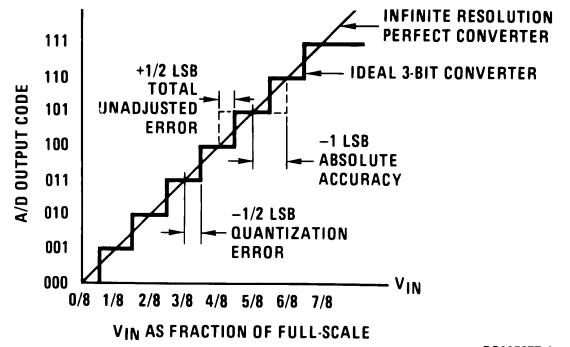
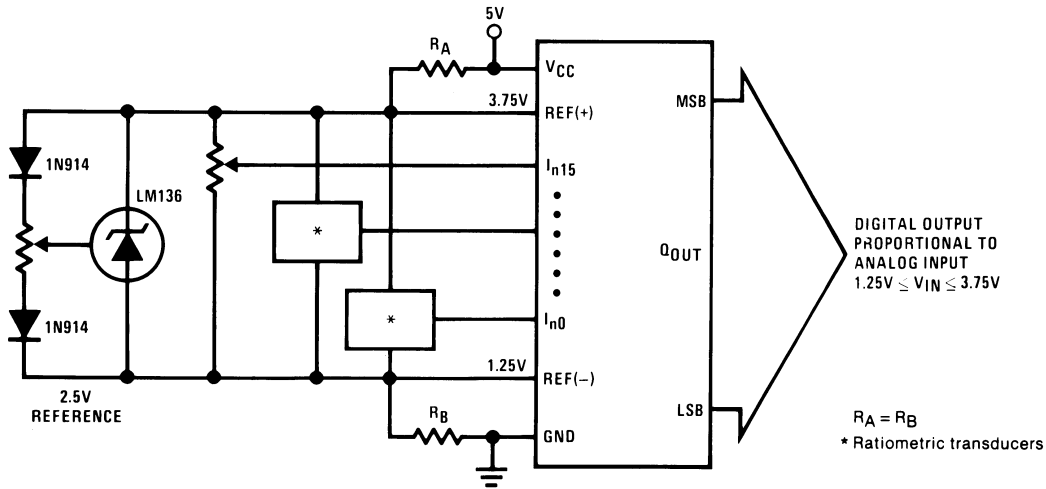

FIGURE 3. 3-Bit A/D Absolute Accuracy Curve
FIGURE 13. Symmetrically Centered Reference
**Note 5:** Total unadjusted error includes offset, full-scale, and linearity errors. See Figure 3. None of these A/Ds requires a zero or full-scale adjust. However, if an all zero code is desired for an analog input other than 0.0V, or if a narrow full-scale span exists (for example: 0.5V to 4.5V full-scale) the reference voltages can be adjusted to achieve this. See Figure 13.
The top and bottom ladder voltages cannot exceed  $V_{CC}$  and ground, respectively, but they can be symmetrically less than  $V_{CC}$  and greater than ground. The center of the ladder voltage should always be near the center of the supply. The sensitivity of the converter can be increased, (i.e., size of the LSB steps decreased) by using a symmetrical reference system. In Figure 13, a 2.5V reference is symmetrically centered about  $V_{CC}/2$  since the same current flows in identical resistors. This system with a 2.5V reference allows the LSB to be half the size of the LSB in a 5V reference system.